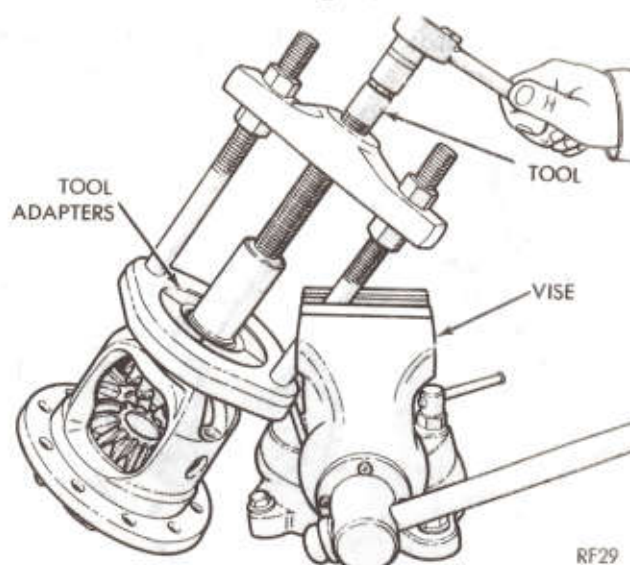

Fig. 24—Removing Differential Bearings (Typical)
(21) Using Tool DD-914-P, adapter ring DD-914-8, DD-914-7 extension, DD-914-42 button, and DD-914-62 adapters, remove differential cones from case (Fig. 24). Care must be taken to insure that bearing remover adapters are located so as not to pull on bearing cage.
(22) Remove the shims located behind each bearing and record thickness and respective side to aid in reassembly.
(23) Remove axle shaft inner oil seals.